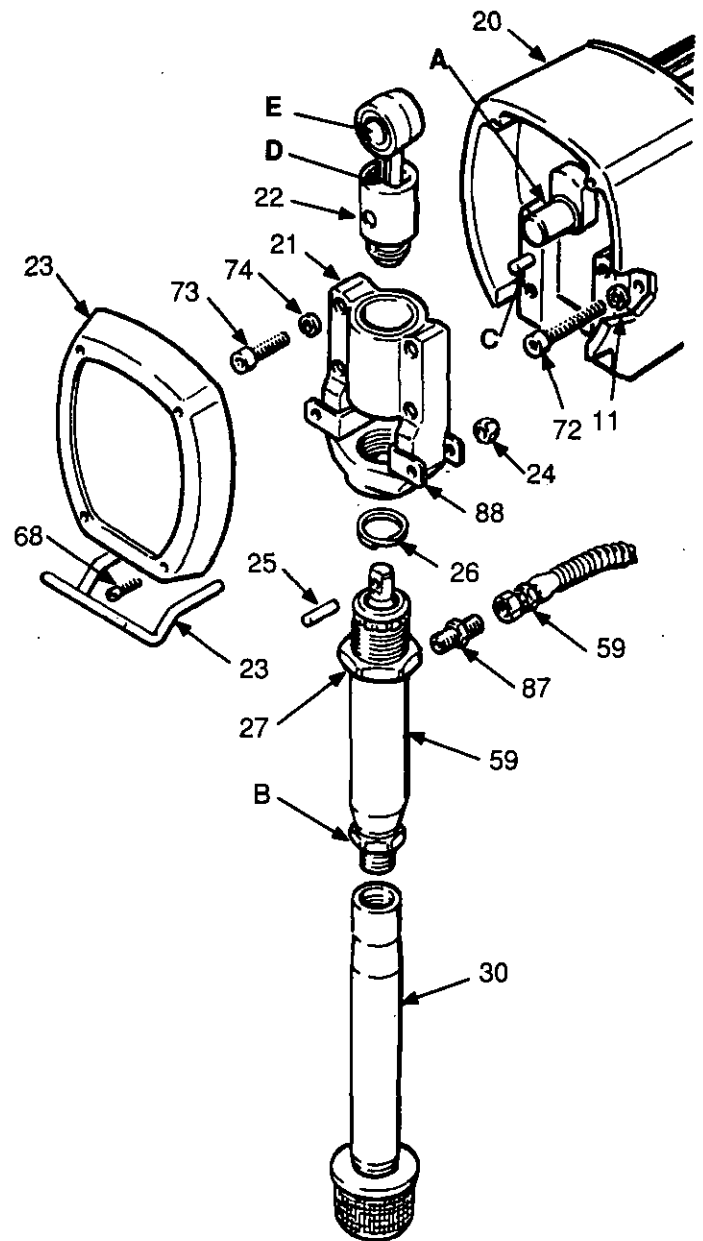

Fig 22-1
NOTE: Steps 1 to 13 refer to Fig 22-1.
15. Reinstall the front cover and screw (23,68). Reconnect the suction tube (30) and pump outlet hose (59). See Fig 22-1.